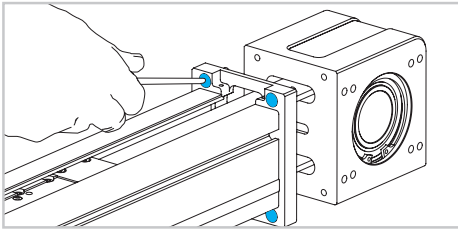

Fig. 14
- 14) Separate the driving head from the profile untightening the 4 screws (Fig. 14).